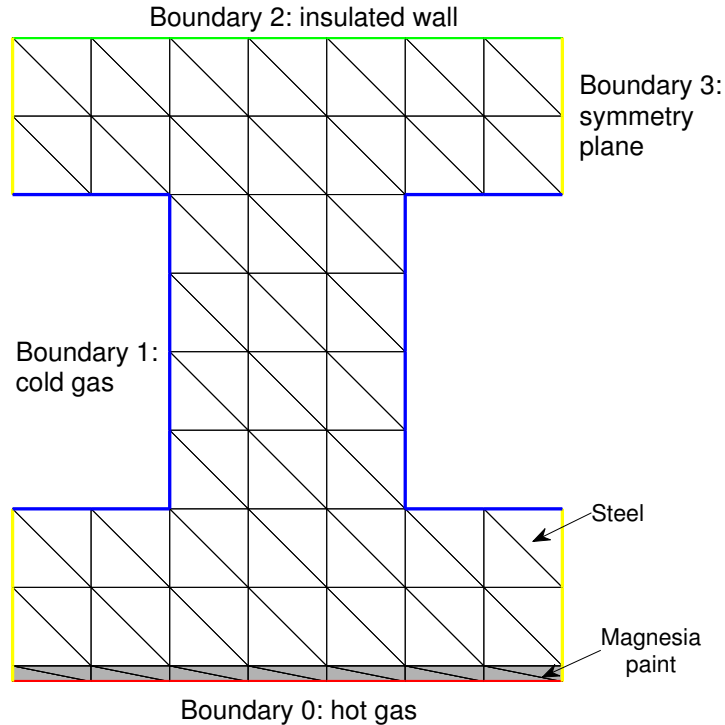

Figure 2: Coarse grid and boundary definitions for the nozzle analysis domain.
Your primary task is to write a finite element solver to solve Eq. (2) for the steady-state temperature T , subject to the convection (Robin) boundary conditions in Eq. (1). Four triangular meshes of the nozzle analysis domain are provided for you in the MATLAB data file `Meshes.mat`. After executing `load Meshes` you will have the variables `NozzleMesh1`, `NozzleMesh2`, `NozzleMesh3`, and `NozzleMesh4`, each of which is defined as a MATLAB structure. A description of how to use these Mesh structures is given in the code shell `heat.m`. Each successive mesh is a uniform refinement of the previous mesh, and hence has four times the number of elements. Fig. 2 shows the elements that make up the first mesh, along with an enumeration of the four boundaries that your code will have to take into account. In all